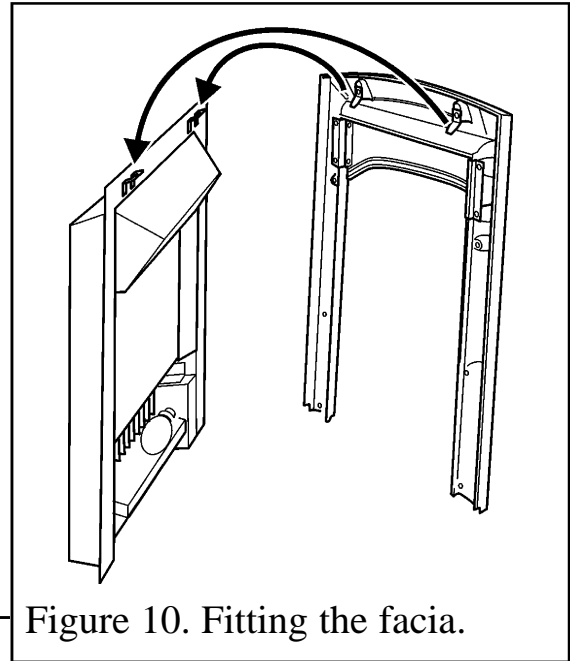

Figure 10. Fitting the fascia.
1. Fit the fascia to the heater by hooking the brackets on the rear of the fascia over the brackets on the heater (See figure 10).